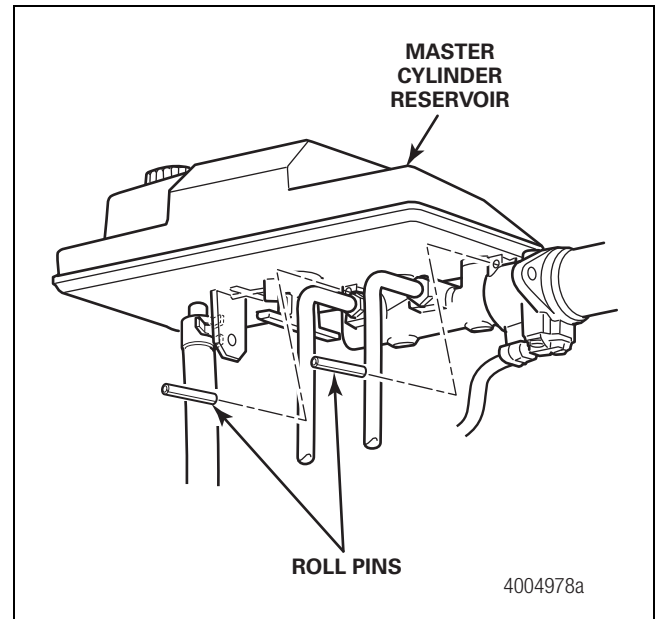

Figure 4.47
- C. Install the two new roll pins from the replacement kit. Drive the pins through the holes in the master cylinder boss and the reservoir mounting tab holes. Support the back of the tabs as you install each pin. Figure 4.47.